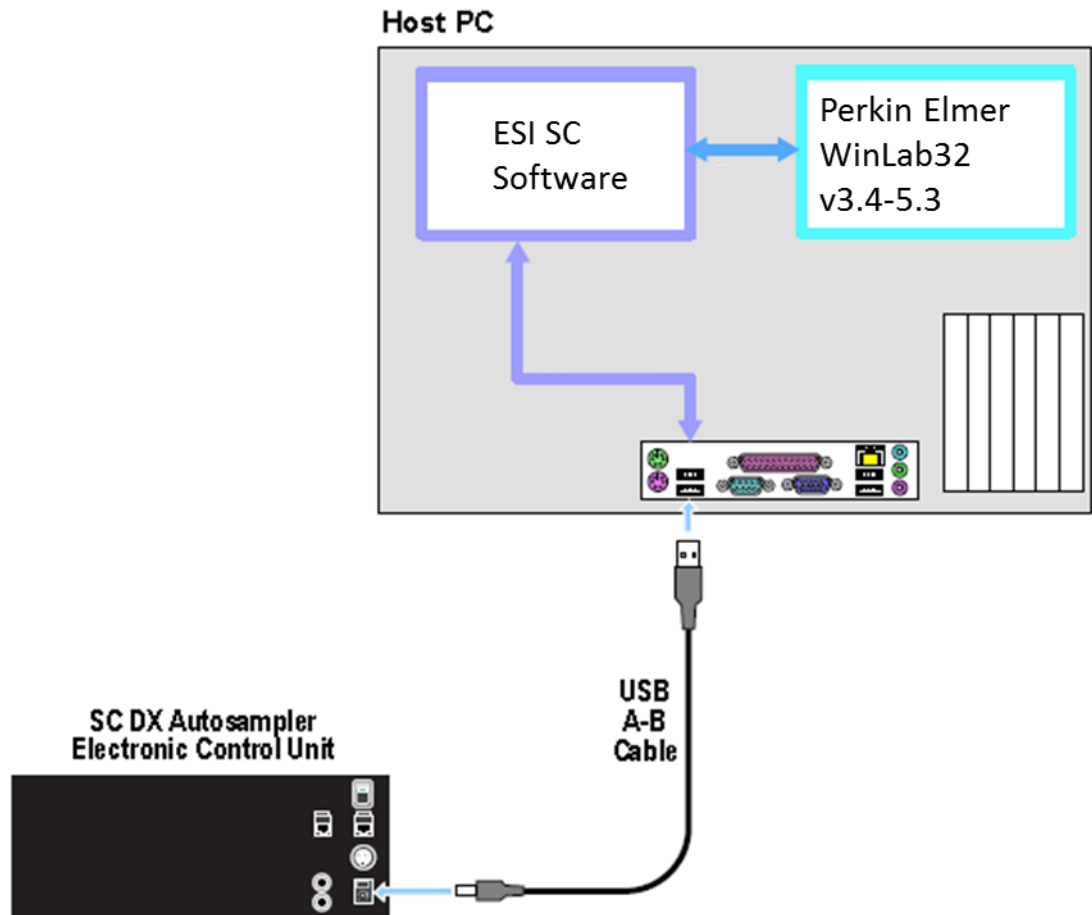

Figure 25: Connections for ESI SC with Optima and SC autosampler.
- 3) Connect the USB cable from the computer to the SC Autosampler control unit. See Figure 25. Connect 24 V DC power to the SC Autosampler.